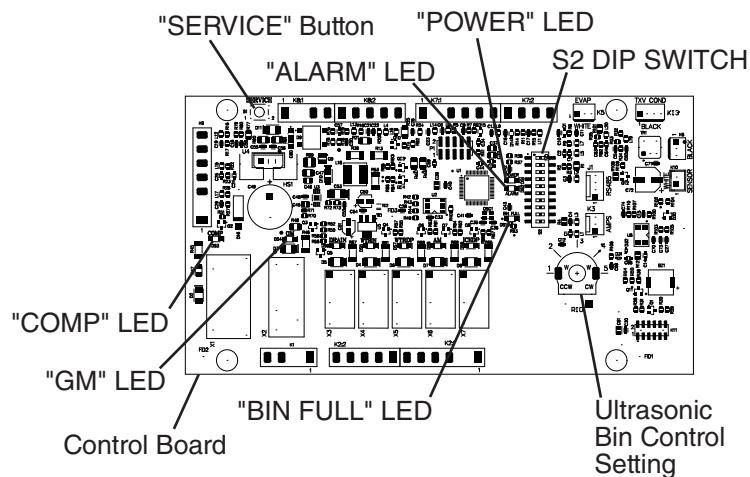

Fig. 19
- 5) Confirm the control board orange "BIN FULL" LED is off (bin empty). "POWER" LED is on. See Fig. 19.
7) Make sure the "GM" LED is on. See Fig. 19. There is a delay of at least 30 sec. before the "GM" LED turns on after power-up. After "GM" LED turns on, press the "Service" button on the control board to bypass the 5-minute compressor delay. **WARNING! Risk of electric shock. Care should be taken not to touch live terminals.** Confirm the "COMP" LED turns on.